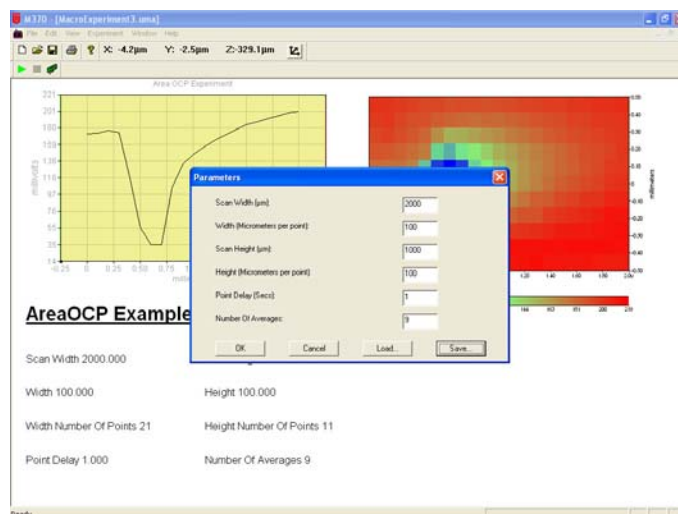

FIGURE 1. The Area-OCP configuration screen.
Figure 1 below shows the configuration box for the Area-OCP experiment.
Averages' allows the user to discriminate against background noise by enhancing the signal to noise ratio. The setup shown in Figure 1 shows a lopsided line-scan trace of the PIS sample. This is due to two effects; stirring of the solution as the probe scans through the diffusion field, and the geometry of the electrode setup. Increasing the point-delay should reduce the effects of stirring, and this in turn depends on the size of the electrode; larger electrodes generate larger diffusion fields that are less resistant to the effects of stirring and require longer times to settle. Also, in the configuration above the counter-electrode (CE) is placed at the right hand side of the electrochemical cell resulting in a skewed electric field. This results in a predominant flow of ions/mediator between the active PIS sample and the CE source. The use of a circular CE that surrounds the sample should then produce a more-evenly distributed OCP measurement.